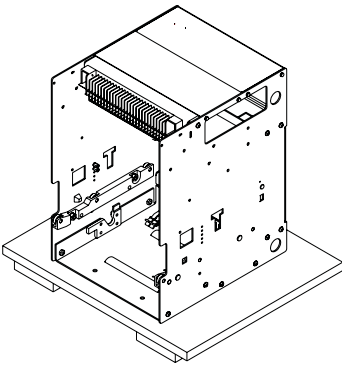

Fig. 5
- Place the circuit-breaker and any fixed part on a horizontal surface, not in direct contact with the floor but on a suitable support (Fig. 5).